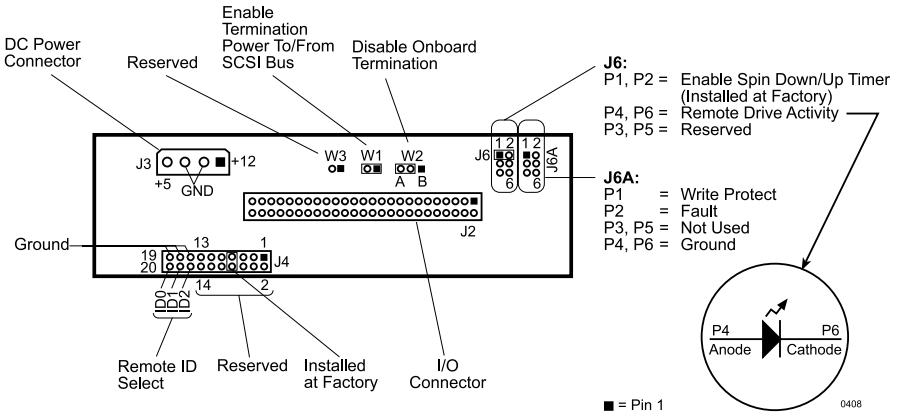

Figure 5: Receiving Frame (Rear View)
- **Device Spin Down/Up Timer:** May be disabled by removing Jumper J6 P1-P2 (Figure 5). The timer controls the length of time that the unit ID number display flashes during device spin down/up, providing a visual indication of drive activity. Refer to Figure 11 for switch settings.
(Figure 5)
6. To connect the drive to a Remote Activity LED in the computer system or expansion chassis, connect the appropriate cable(s) to the receiving frame motherboard as shown in Figure 5. Connect J6 Pins 4 & 6 to a remote activity LED.
7. Connect the I/O cable from the host adapter to the receiving frame. The Pin 1 indicator on the cable must be properly aligned. Refer to Figure 5 for the correct Pin 1 location.
Make sure that only the last SCSI device is terminated. If the DE200i-S is at the end of a daisy chain, the terminators on the receiving frame **must** be enabled. If the DE200i-S is in the middle of a daisy chain, termination should be disabled (factory default). Refer to jumper W2 in Figure 5.
8. Connect the power cable from the DC power supply in the computer or expansion chassis to the power connector on the DE200i-S receiving frame. Refer to Figure 5 for the receiving frame power connector location.